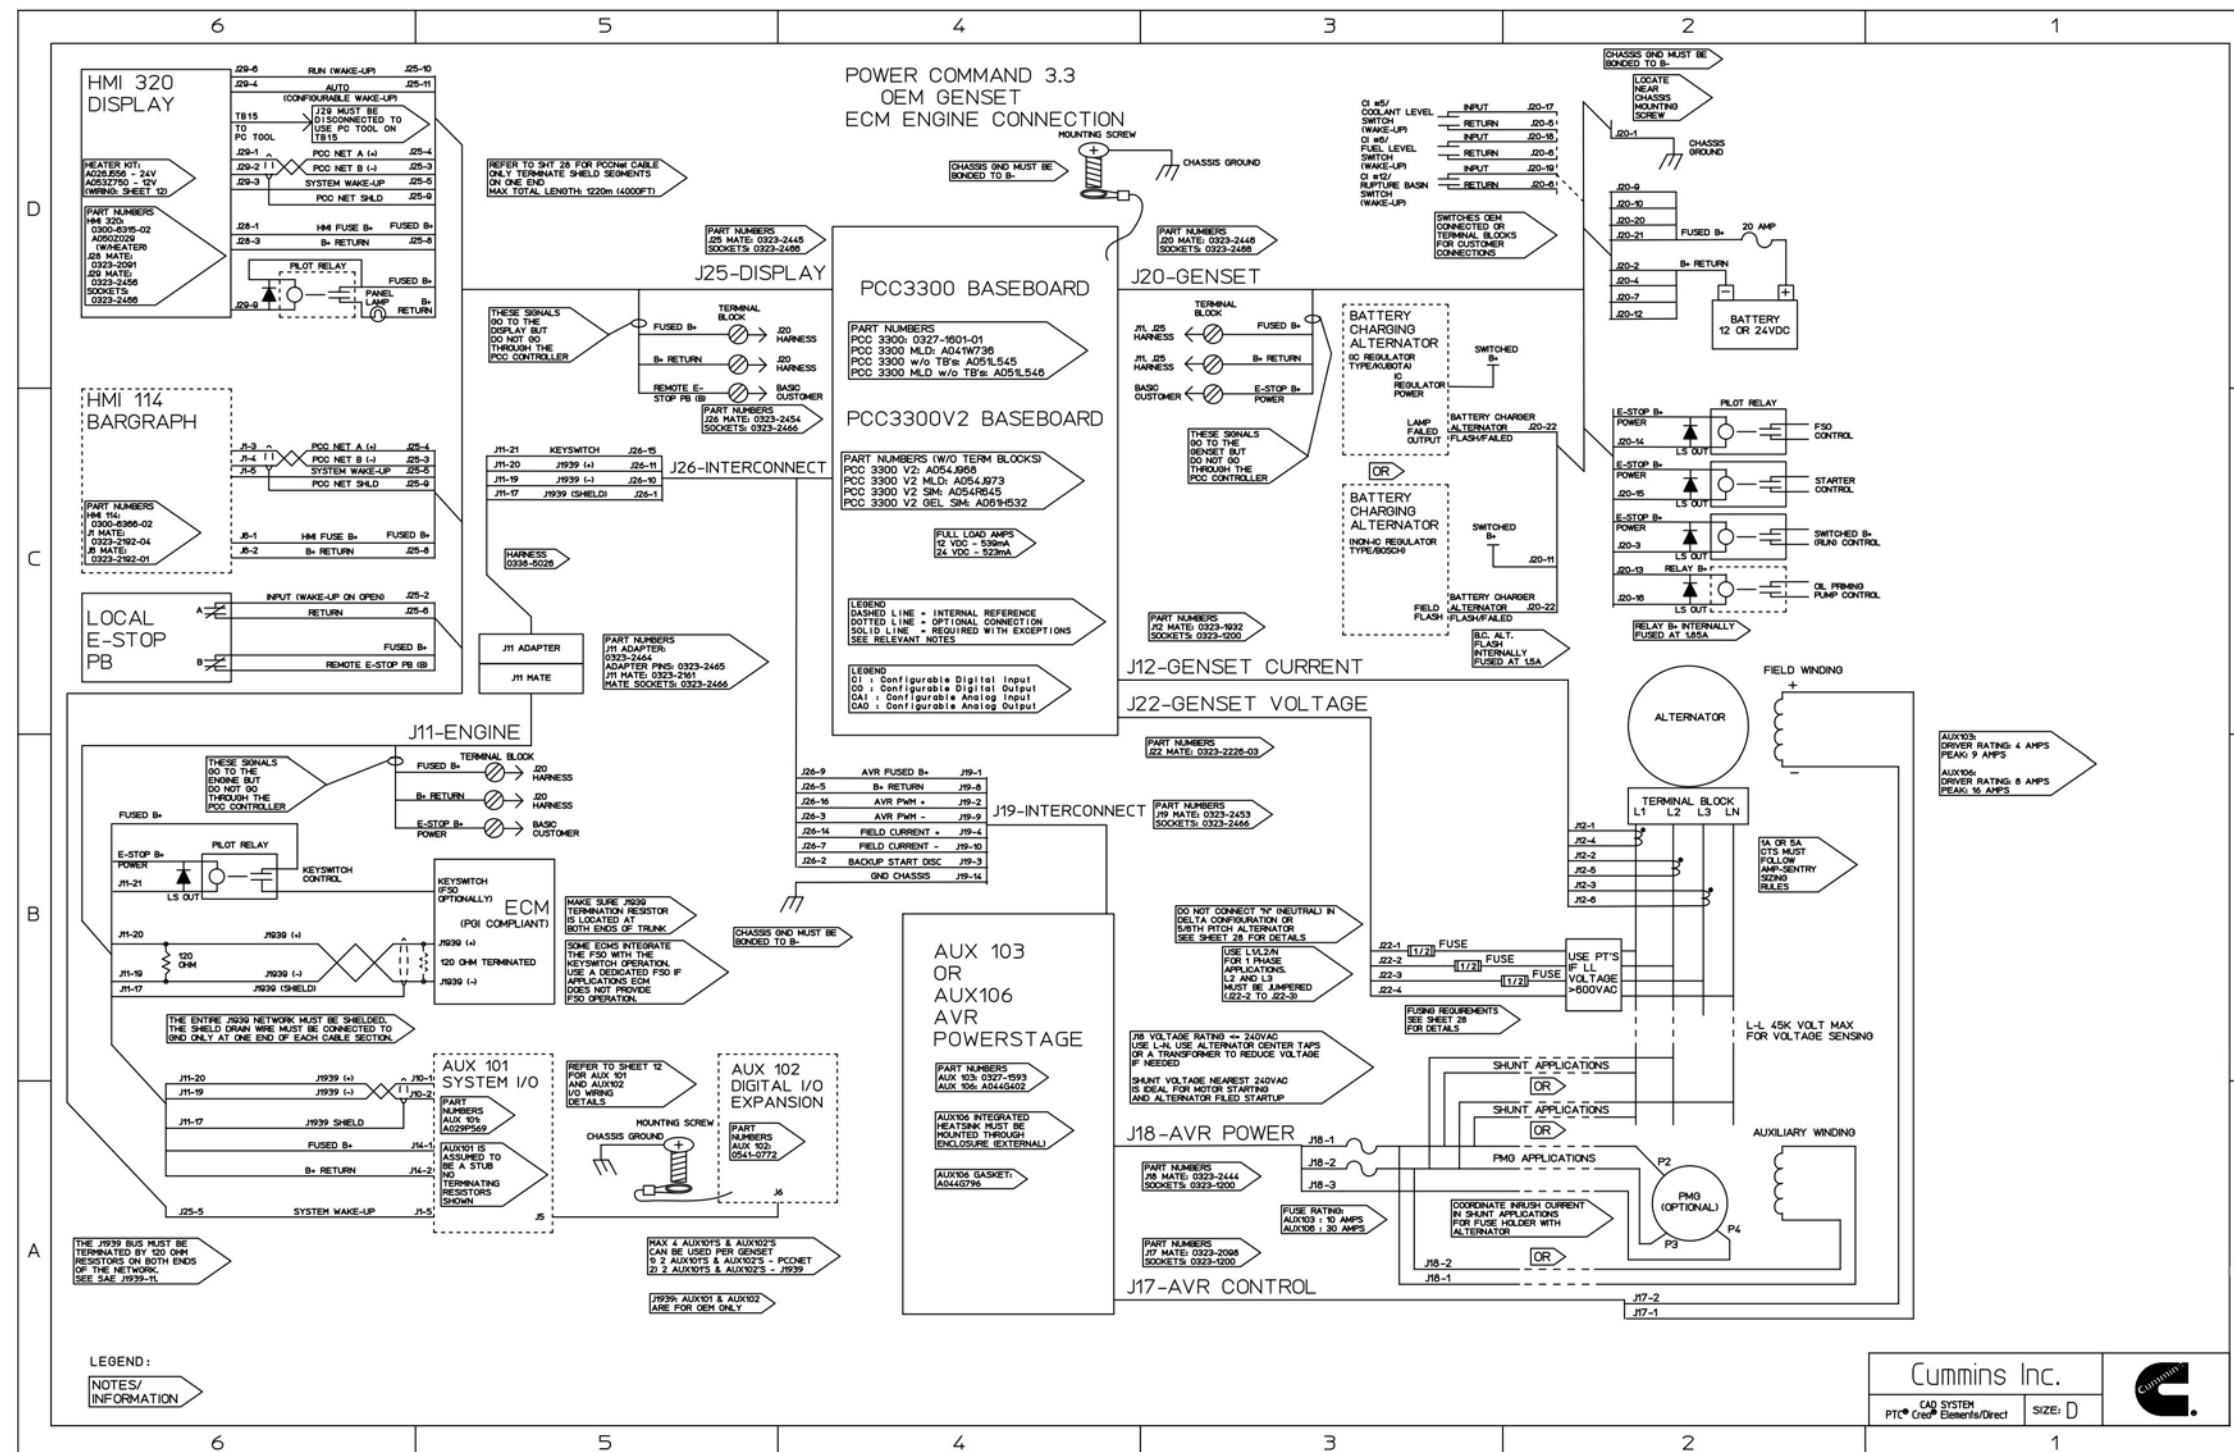

FIGURE 52. POWERCOMMAND 3.3 CONNECTIONS - ECM-BASED ENGINES
- Figure 52. PowerCommand 3.3 Connections - ECM-Based Engines 115